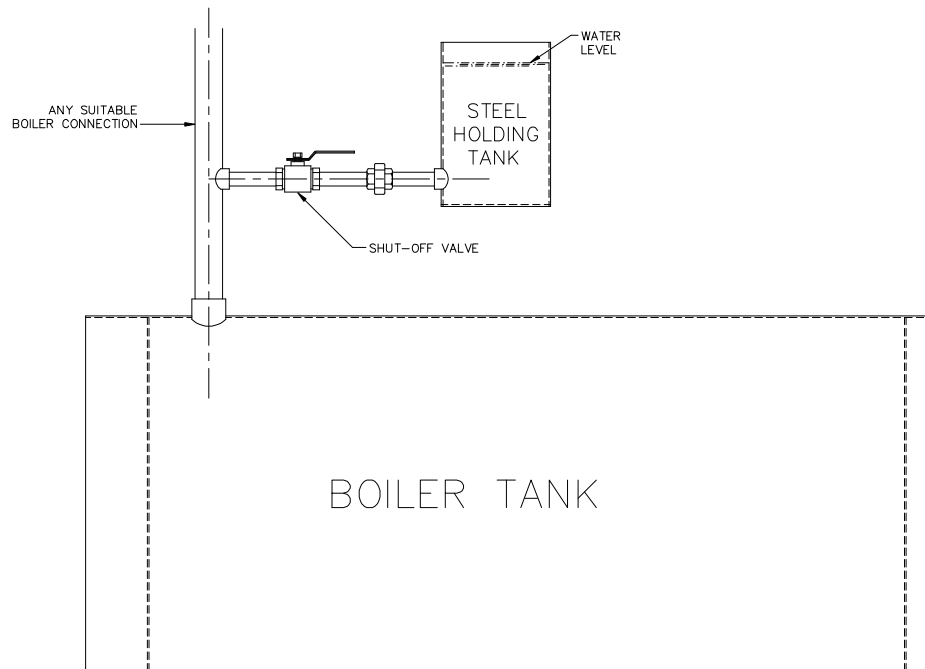

Figure 1
2. After filling, the boiler must be tightly blanked or closed. Electric energy to the unit must be turned off. All vent valves are operated as needed to ensure that the boiler can be completely filled with the required solution. To prevent in-leakage of air, pressurize unit with 5 psig nitrogen through a suitable connection during the lay-up period. An alternative is to install a 55 gallon drum or auxiliary vessel, fitted with a cover and containing properly treated water, above the highest part of the steam drum. The drum and auxiliary vessel should be connected to an available opening such as a vent line at the top of the boiler to create hydrostatic head. The tank will provide a ready visual check of water loss or in-leakage during lay-up. (See Figure 1)